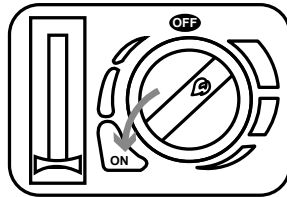

Fig. 4
- Turn the control knob anticlockwise until you hear a click indicating that a spark has been produced (Fig. 4).